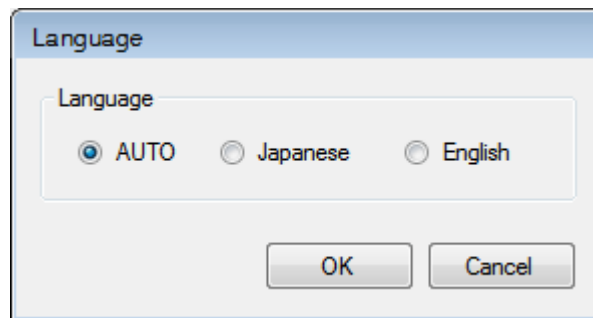

Fig 3-5. Language
- (1) Select [Tool]-[Language] of menu bar.
- (2) [Language] screen will appear. (Fig 3-5)